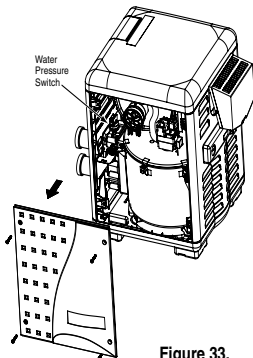

Figure 33.
1. Remove the four corner wing nuts that secure the top panel. Lift the top panel upward to remove the top panel. Note: If needed, remove the wires from the control board if the top is removed completely. See Figure 33.